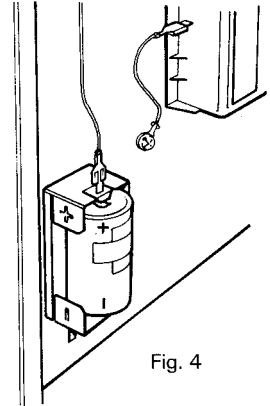

Fig. 4
The bottom infill panel and battery box assembly will require fitting to appliance (see Fig. 4), and is situated in a pocket at the rear of the base moulding. The battery is packed in the base moulding with screws.
2. The battery holder is located on the outer back panel towards the bottom (see Fig. 4).